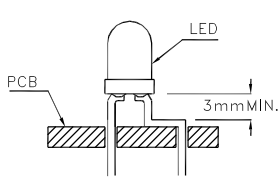

Fig. 5
- Maintain a minimum of 2mm clearance between the base of the LED lens and the first lead bend. (Fig. 5 and 6)